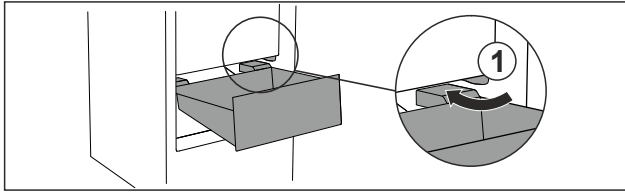

Fig. 76
- Guide drawer in at an angle around the stoppers Fig. 76 (1).